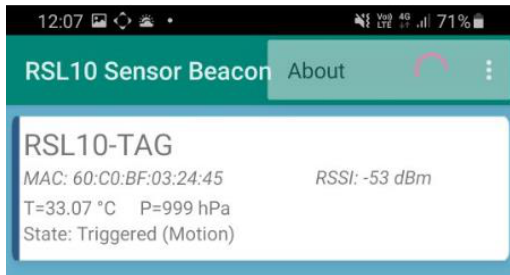

Figure 18. Mobile App Discovery Screen
3. The app's discovery screen will show the State of the Tag, RSSI, temperature and pressure readings. The mobile app filters the RSL10 Asset Tags and shows as many as possible if in closer proximity of the mobile device (Figures 18, 19, 20, 21).